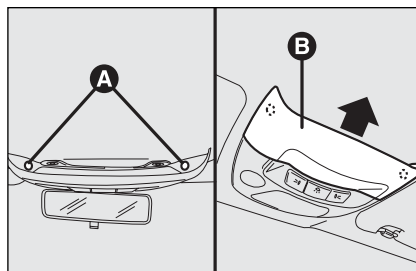

fig. 41
- ☐ press the catches **A**-fig. 41 and withdraw the plastic cover **B**;